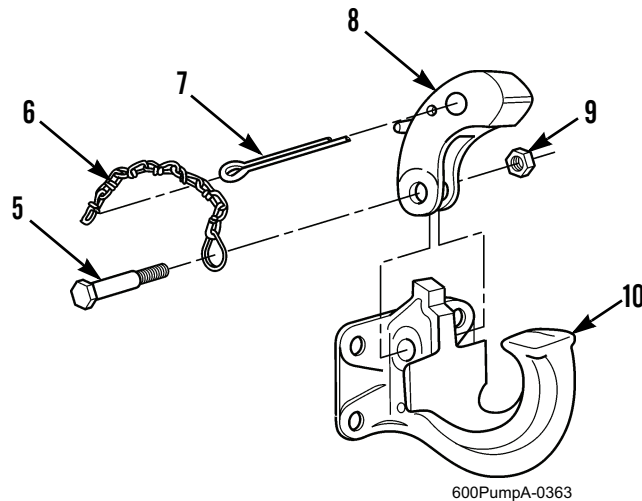

Figure 2. Pintle Hook Assembly - Exploded View.
1. Remove nut (Figure 2, Item 9), bolt (Figure 2, Item 5), chain assembly (Figure 2, Item 6), and latch (Figure 2, Item 8) from pintle hook (Figure 2, Item 10).
2. Separate cotter pin (Figure 2, Item 7) from chain assembly (Figure 2, Item 6). Discard cotter pin.
3. Install new cotter pin (Figure 2, Item 7) on chain assembly (Figure 2, Item 6).
4. Install latch (Figure 2, Item 8) and chain assembly (Figure 2, Item 6) on pintle hook (Figure 2, Item 10) with bolt (Figure 2, Item 5) and nut (Figure 2, Item 9).